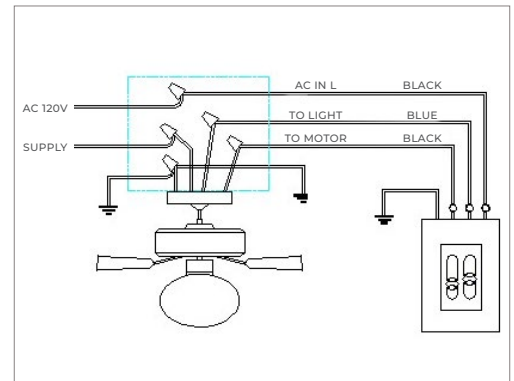

FIGURE 2
E) Make wiring connections and secure with provided wire nuts. (Figure 2)